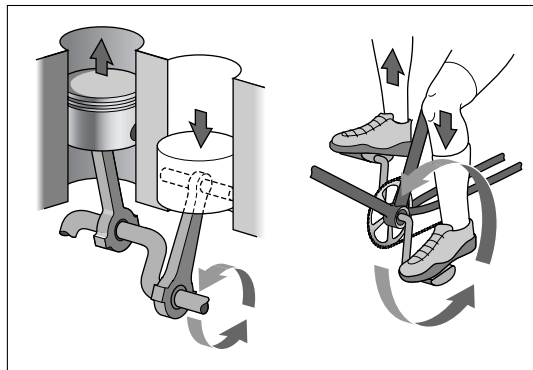

Figure 4-5: The pistons and connecting rod move up and down to turn the crankshaft in circles.
- Attached to the bottom of the piston is a **connecting rod** that's attached to a **crankshaft**, which leads, eventually, to the **drive wheels** of your vehicle. As the piston and the connecting rod go up and down, they cause the crankshaft to turn. As shown in Figure 4-5, this is pretty much the same motion you use to pedal a bike: Your knee goes up and down while your foot pedals around and around.